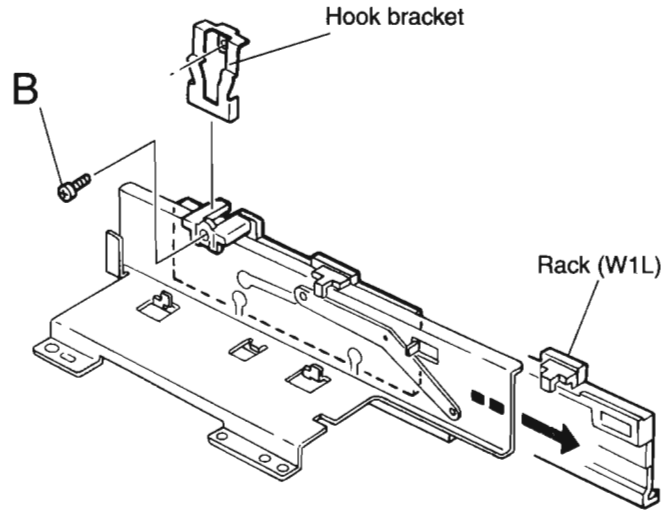

Fig.23
■ Removing the Rack guide base assembly (L) (see Fig.23 and 24)
2. Move Rack (W1L) in the direction of the arrow to remove (see Fig.23).